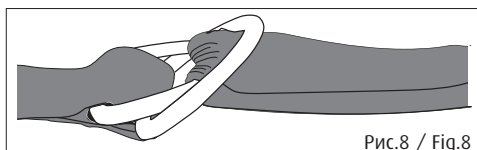

Рис.8 / Fig.8
1. Check whether the strap is assembled according to *figure 8*.